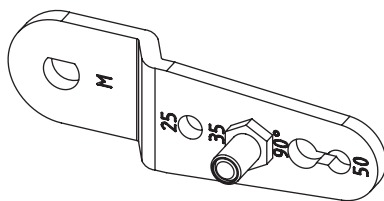

**Fig. 5-2:** Permissible mounting positions
- Observe mounting position (see Fig. 5-2).